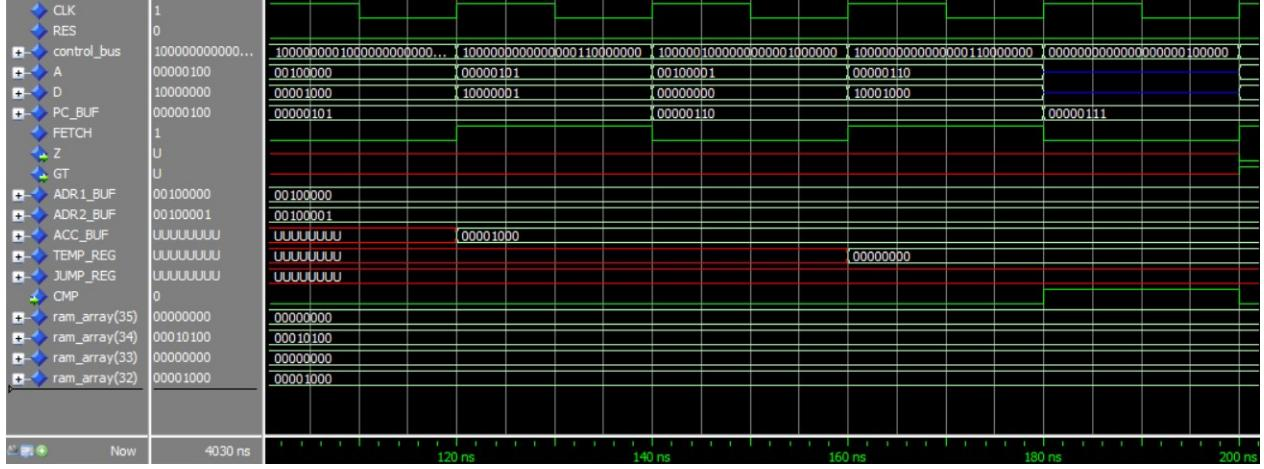

Figure 7: Simulation, 100-200ns.
The next instruction is LD ACC (see figure 7) which loads the accumulator with the value (8) pointed by the value in ADR1. Note that ADR1\_OE is set high on the control bus. Hereafter, the same thing occurs with TEMP\_REG and ADR2. Note that the PC only increments at the beginning of the FETCH cycle and not during the EXECUTE cycle since these are single-length instructions.